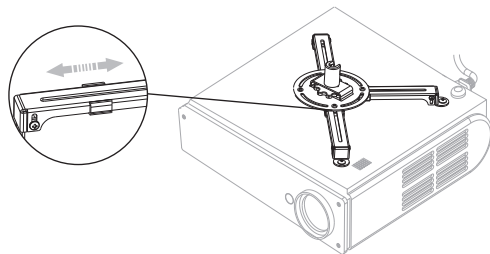

figure 10
2.If there are 3 holes, the installation arms need to be taken apart from Installation bracket firstly. Connect 3 installation arms to the projector, and then connect the installation arms to the installation base However, the installation base needs to be the center of projector. Figure 10.